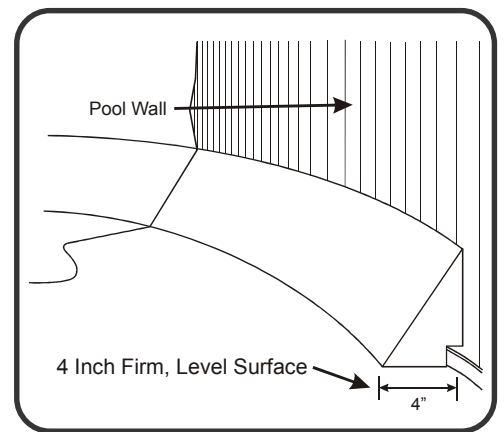

Figure 1
Step 2: Make sure you have a 4 inch wide firm, level surface around the entire inside of the pool wall (See Figure 1). Make sure the bottom 6 inches of inside pool wall is clean and dry.